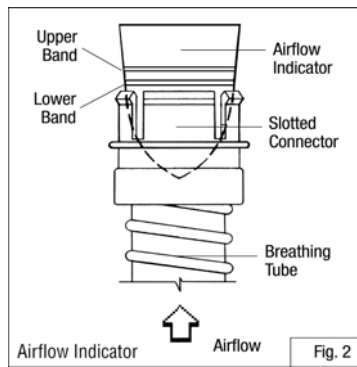

Fig. 3
1. Ensure that the breathing tube is connected to the PAPR unit. Hold the free end of the tube up by grasping the slotted connector and covering the slots of the connector with thumb and forefinger. Drop the black, bullet-shaped airflow indicator (pointed end first) into the slotted connector. (Fig. 3)